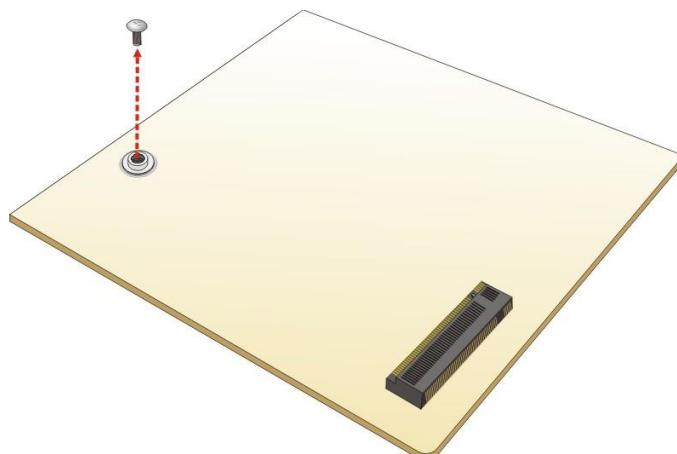

Figure 3-7: Removing the M.2 Module Retention Screw
Step 2: Remove the on-board retention screw as shown below (**See Figure 3-7**).